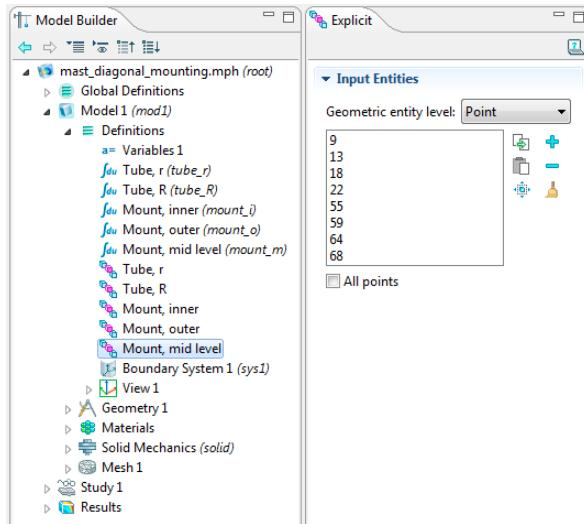
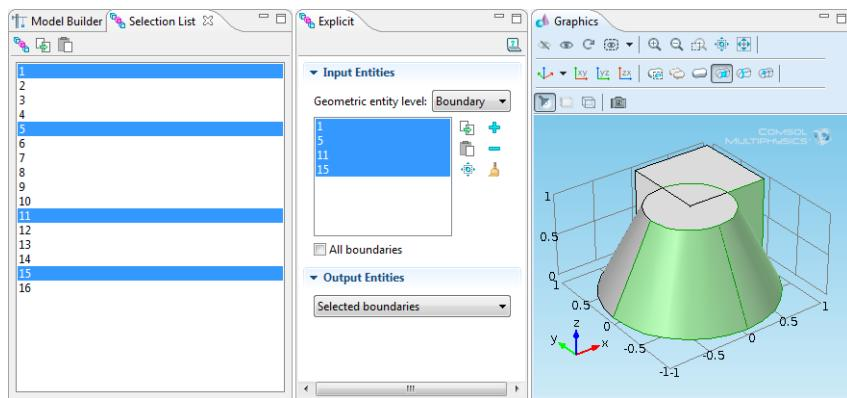
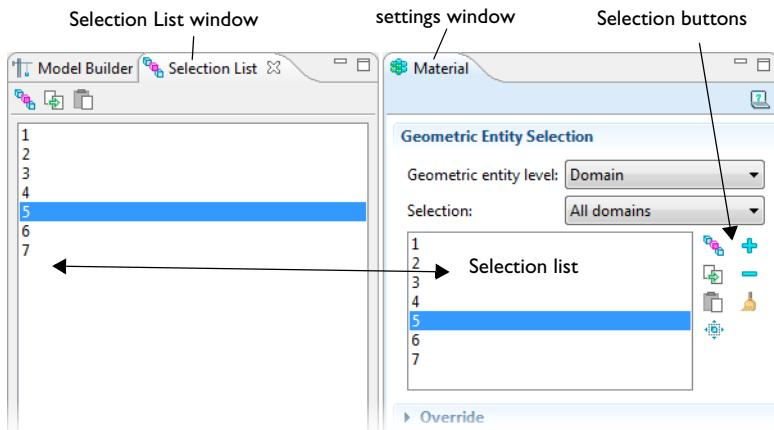

Figure 5-3: An example of an *Explicit* selection window for the *Mount, mod* level node. The Selection nodes under Definitions are renamed by the user.
Figure 5-4: Using a combination of the Selection List and Selection window to choose boundaries on a 3D model.
Figure 5-5: Selection List window compared to the Selection list in the settings window.
Table 5-2 lists the buttons that display on every settings window that has a geometric entity selection list as displayed in Figure 5-5.
You can also use the **Paste Selection** button () if you have a list of geometric entities that you want to paste into a selection list. The button is available in the same places as the **Create Selection** button (see Figure 5-3, Figure 5-7, and Figure 5-8). You can type selection data directly into the **Paste Selection** window that opens when the button is clicked.
- When working in windows with Selection or Geometric Scope sections (a **Selection** window under a **Definitions** node () for example), or anywhere you assign materials, physics, boundary conditions, and other model settings. The Selection List displays the specific *geometric entity level* selected (domain, boundary, edge, or point). See Figure 5-4.
Figure 5-5 shows the difference between a **Selection List** window () and the selection lists that are found in the settings window for many nodes. Normally the list of selected entities is shorter in the settings window, which only shows the selected entities (boundaries in this case). See also Figure 5-4 above and Figure 5-3 in the Named Selections section for more examples and comparisons of the different Selection types.